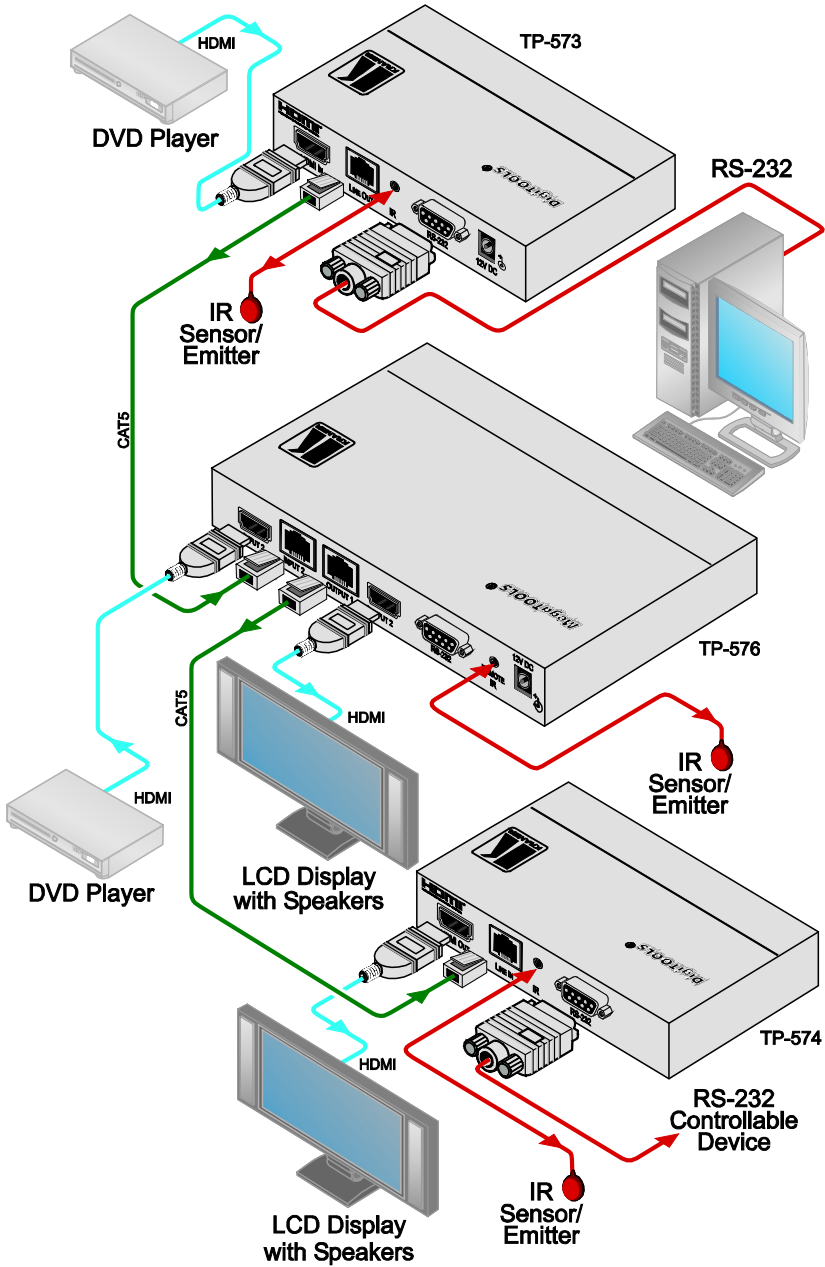

Figure 2: Connecting a TP-576 HDMI / CAT5 Line Driver
To connect the **TP-576** together with the **TP-573 HDMI/RS-232/IR Line Transmitter** and the **TP-574 HDMI/RS-232/IR Line Receiver**, as illustrated in the example in Figure 2, do the following:
4. The 12V DC power supply3 to the **TP-576** (not shown in Figure 2).
9. The 12V DC power supply to the **TP-576** (not shown in Figure 2).